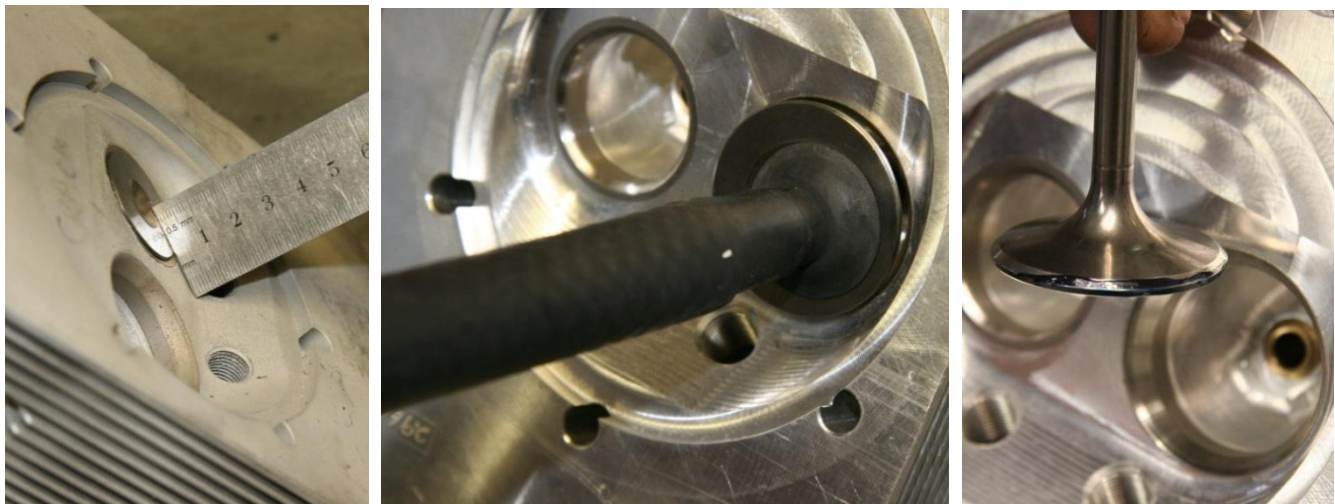

Figure 91 – Recessed Valve Seat, Valve Being Cut
- Figure 91 (left) shows a valve fitted to a recessed seat. This assembly is unserviceable. To avoid this, valve seats must be cut as lightly as possible.
- Figure 91 (2 right pictures, above) shows a valve / valve seat being cut using a hand grinder and valve lapping paste on the sealing face.